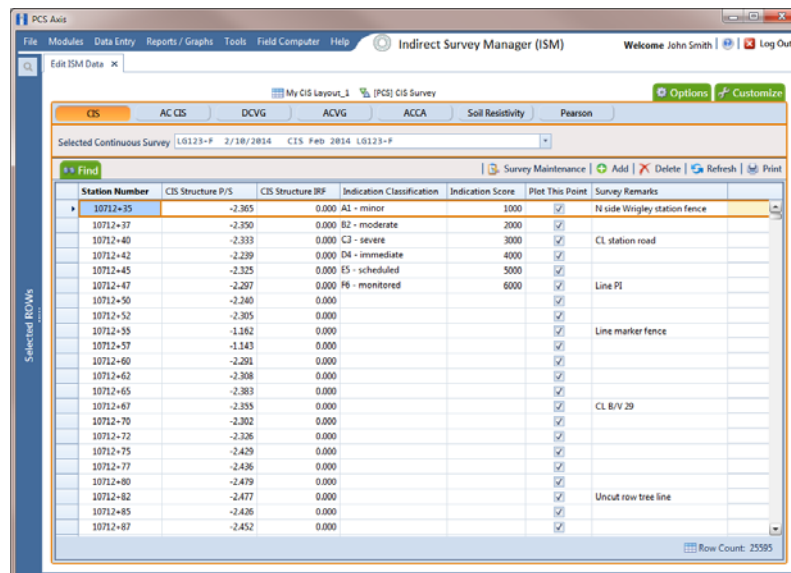

Figure 7-80. Edit ISM Data
- 3 Click **Data Entry > Edit ISM Data** to open the ISM data entry grid. Then click a button labeled with the type of continuous survey data you want to work with, such as the **CIS** button  (Figure 7-80).